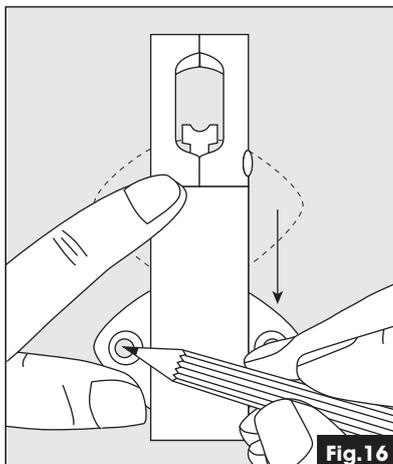

Fig. 16
**If using a Metal Tension Pulley:** Pull the back plate on the tensioner down, place against the wall or window frame at least 150cm from the floor and mark the screw holes. Fit to the wall using the appropriate plugs and screws for your wall type (Fig. 16).